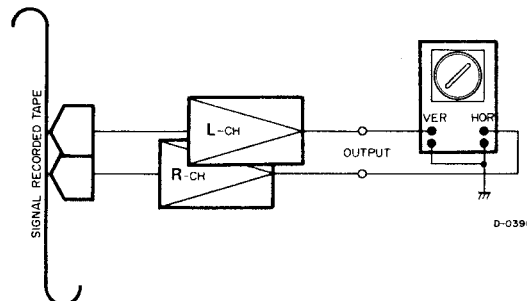

Fig. 7-8 Fine Adjustment Set-up -Head Azimuth-
7. Connect the test equipment as shown in Fig. 7-8.